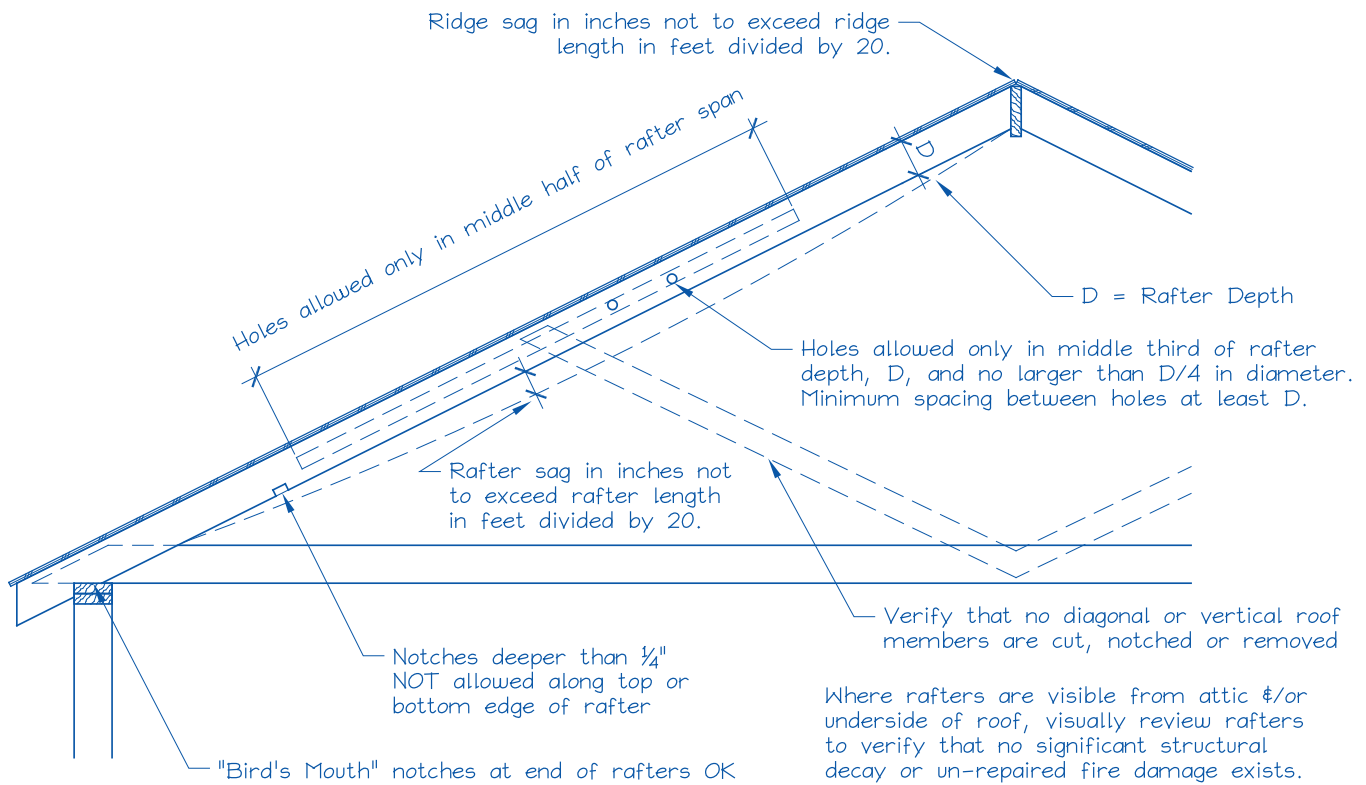

Figure 1. Roof Visual Structural Review (Contractor's Site Audit) of Existing Conditions.
- 2) Does the roof structure appear structurally sound, without signs of alterations or significant structural deterioration or sagging, as illustrated in Figure 1? ☒ Y ☐ N